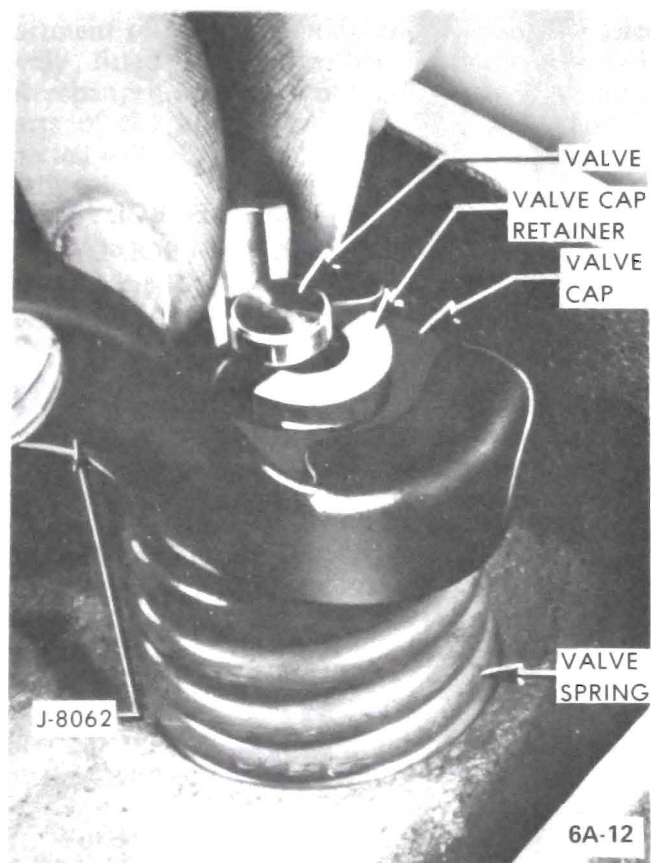

Figure 6A-6 Removing Valve Stem Keys
2. Using a suitable spring compressor, such as J-8062, compress valve spring and remove valve spring cap keys. Release tool and remove spring and cap then, remove oil seal. See Figure 6A-6.